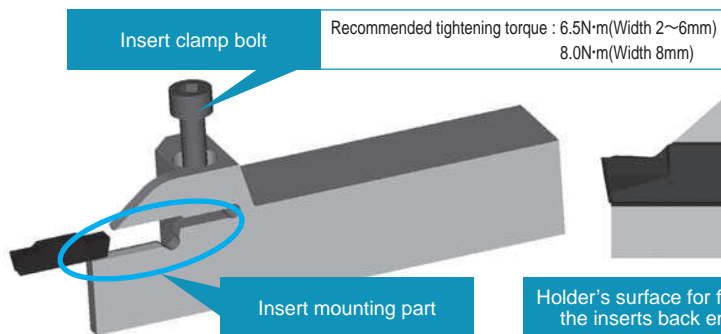

Fig. 1
1. Use compressed air or other measures to remove chips from the insert mounting part see (Fig. 1).